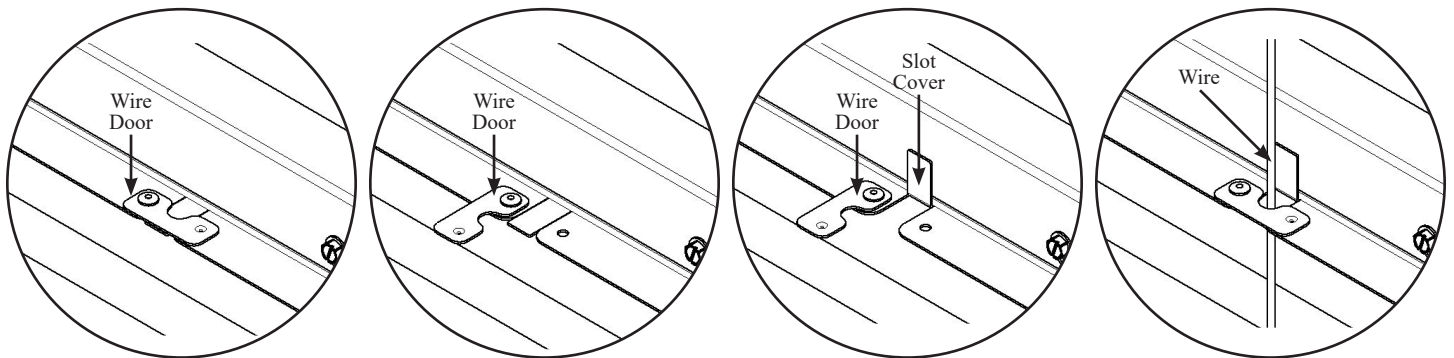

Fig. 2 - Fan with Light
3. When using a fan equipped with a grille light, rotate the wire door and bend down the slot cover with a screwdriver. Route the wire from the grille through the slot, and rotate the wire door back to its original position to secure the wire. (Refer to Fig. 2)